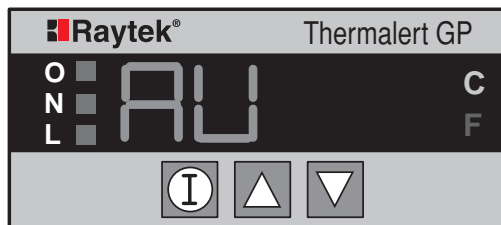

Figure 17: Averaging Display
7. Press the button again and the Averaging display (Figure 17) appears.